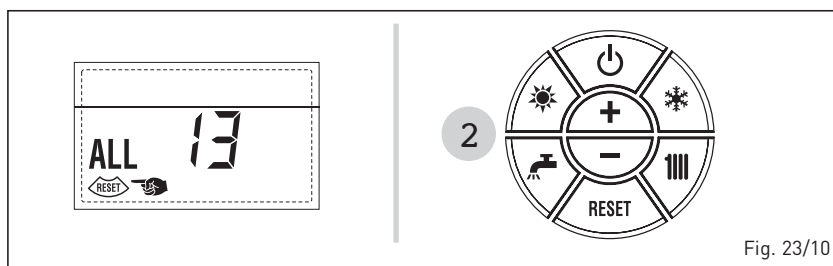

Fig. 23/10
– **ANOMALIA GUASTO SONDA FUMI “ALL 14” (fig. 23/11)**